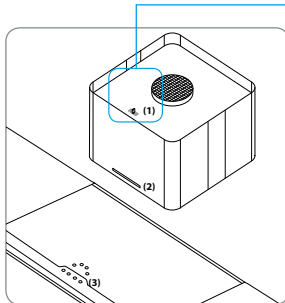

Abb. 1 Insetle in Standardausführung mit Stick (1) und Bedienfeld (2)
Fig. 1 Extractor in standard design with Stick (1) and control panel (2) The hood is controlled via the master switch on the cooking plate (3) or the control panel of the hood. The color temperature is 4.000 K.